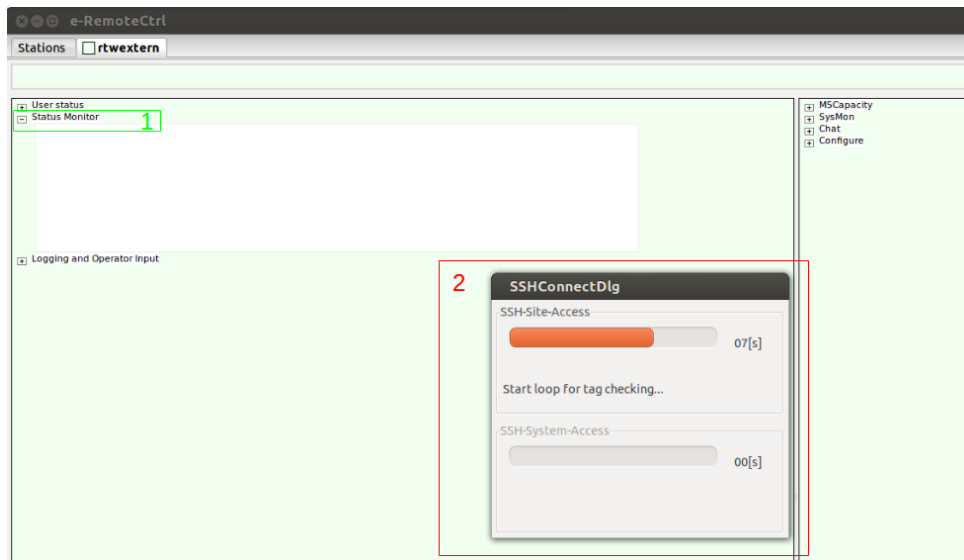

Figure 1.24: Open a connection.
After the login, no connection is opened. The operator must actively select one of the control displays (one of the "+" marked sub-controls). Fig. 1.24 illustrates this. Here the operator has clicked on the *Status Monitor-control* (1). This opens the *SSH connection-dialog* (2), which shows the status of the connection establishment for the different SSH connections, defined in the configuration file.